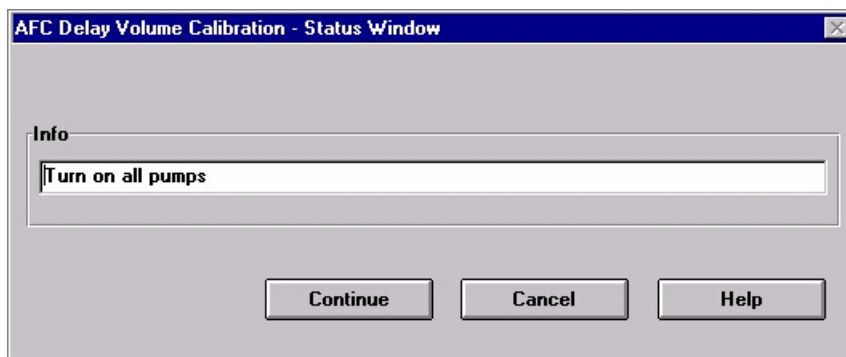

Figure 18 Delay Volume Calibration status window
- 6 Open the AFC Delay Volume Calibration status window (see Figure 18) from the Fraction Collector sub-menu of the Maintenance menu:
- 7 The Info field gives the instruction to turn ON the pumps (see Figure 18). Click **Continue**.